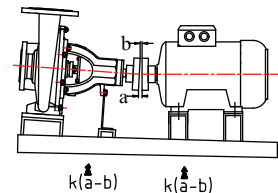
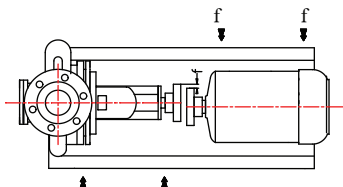

Figure 5: Angular misalignment in vertical plane and its correction
Figure 7: Angular misalignment in horizontal plane and its correction
2. Angular Misalignment (Figure 5- Figure 7).